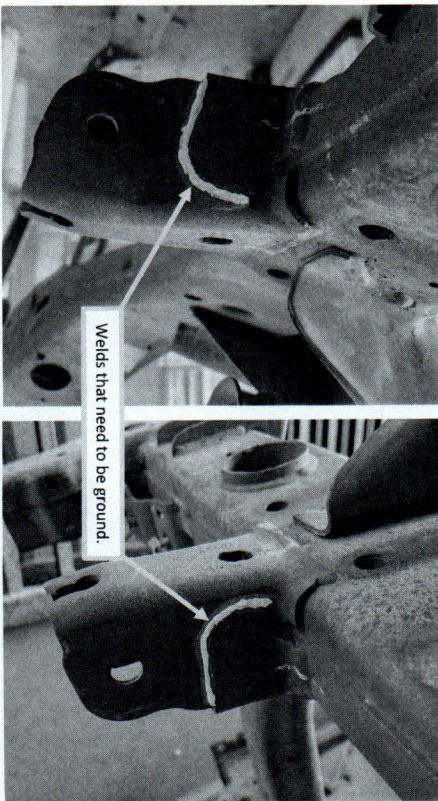

Figure 7, and 8. Track Bar Bracket Welds That May Need to be Ground Down
8. Slide the Synergy Track Bar Brace up from the bottom, over the factory track bar mount. Use the track bar bolt to hold the brace loosely in place. The key to bolting the track bar brace on is to get all the bolts that hold it in loosely in place **before** you tighten any of them. Some Jeep frames may have welds that need to be ground down to get the bracket to fit properly. See **Figure 7 and 8.**